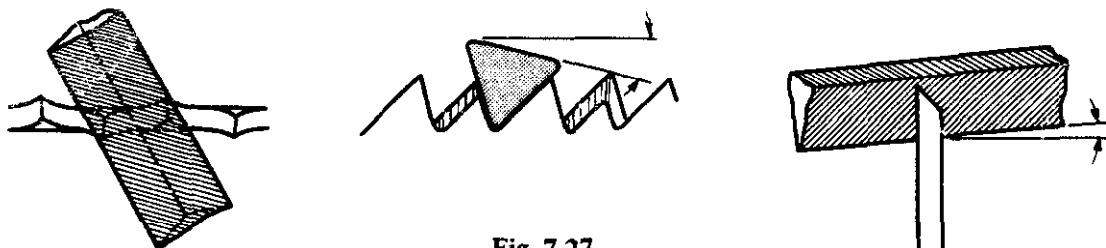

Fig. 7-27
11. On the three views of crosscut teeth in figure 7-27, a file is shown in the correct position for reshaping the teeth. Indicate the angles of the file with the blade and the direction of filing.